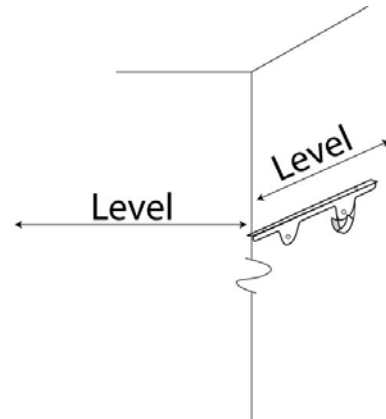

Fig. 4
3. Position a right hand shelf and pole bracket in line with the level on the right return wall. Position the torpedo level on top of the bracket, and level the bracket to both the back of the tower and to the front of the torpedo level. Mark the position of the holes to install Easy Anchors (or other appropriate wall fasteners). (See Fig. 4.)